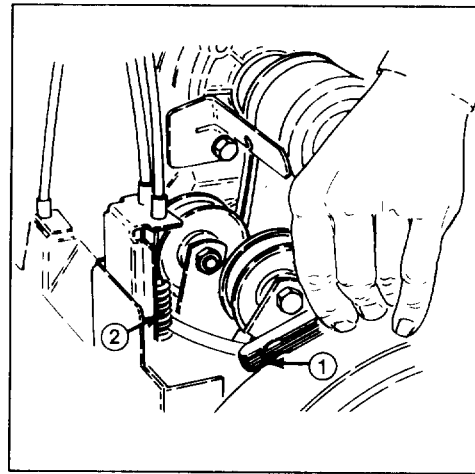

Figure 28
3. CHECKING IMPELLER CABLE ADJUSTMENT—Depress the auger/impeller control lever on the right hand grip. Hold the lever and insert a .010" (.25mm) feeler gauge between a coil in the center of the spring (Fig. 28). Adjust the cable to achieve .010" (.25 mm) gap between the coils.